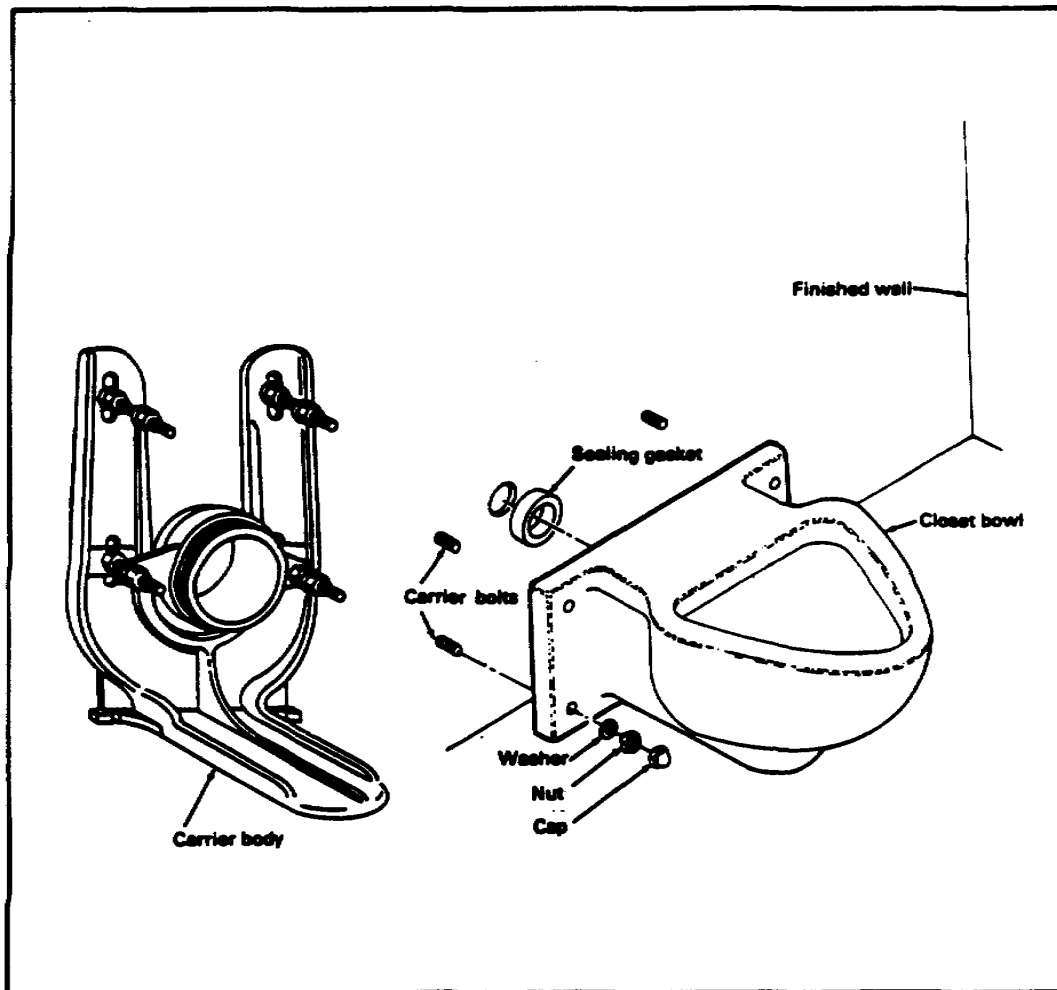

FIGURE 23. INSTALLING WATER CLOSET BOWL TO WALL
**Installing a water closet bowl to the wall.** Use the following steps to install a wall-hung closet bowl (see Figure 23):